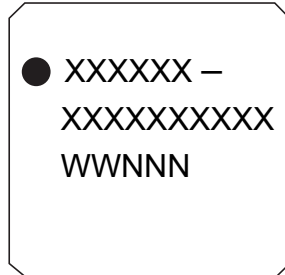

**FIGURE 4-1:**  $50\Omega$  Load CML Output.
**Note 1:**  $V_{OUT(SWING)}$  is defined as the swing on one output of a differential pair, that is  $|V_{OH} - V_{OL}|$  on one pin. The swing for common mode noise immunity purposes is  $2 \times V_{OUT(SWING)}$ . Actual voltage levels and differential swing will depend on customer termination scheme. Typically, a 400 mV swing is available in a 50 $\Omega$  environment. Refer to Figure 4-1 for more details.
**Note 1:** Tested using the 50 $\Omega$  load, as shown in Figure 4-1.
All CML inputs accept a CML output from any other member of this family. All CML outputs are source terminated  $50\Omega$  differential drivers as shown in Figure 4-1. SY55856U expects its inputs to be externally terminated.
SY55856U inputs are designed to accept a termination resistor between the true and complement inputs of a CML differential input pair, as shown in Figure 4-1.